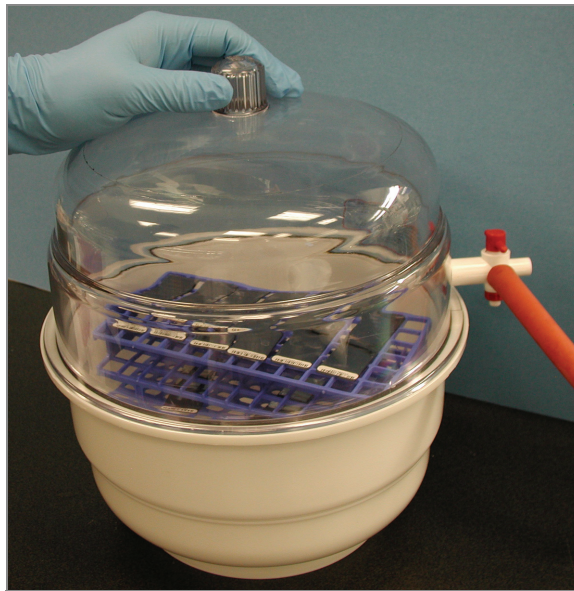

Figure 75 Testing Vacuum Seal
25. To ensure that the desiccator is properly sealed, gently lift the lid of the vacuum desiccator (Figure 75). It should not lift off the desiccator base.